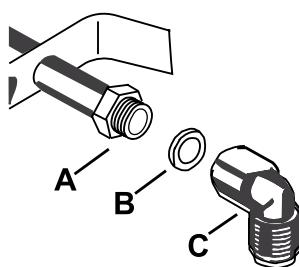

Fig. 6
- The gas piping should be fitted to the terminal connection using the GJ ½" (A) nut. Use the sealing washer (B) and the pipe elbow (C) to facilitate the connection to the fixed metal piping or the hose (Fig. 6).